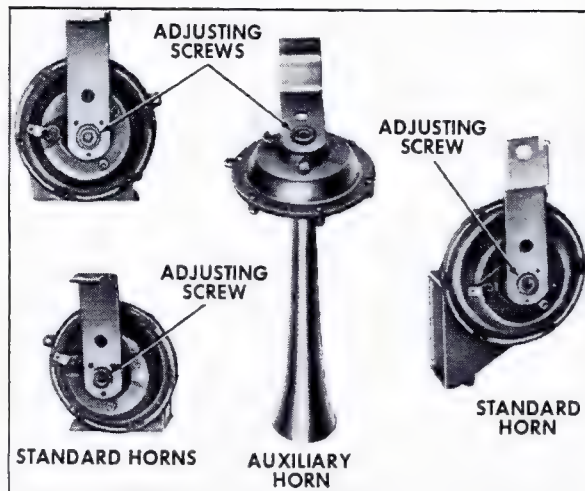

Fig. 12-33 Horn Adjusting Screw
5. If horn still fails to blow until tapped, turn adjustment screw, Fig. 12-33, one full turn counterclockwise with pliers.
Turn adjusting screw, Fig. 12-33 counterclockwise to increase current or clockwise to decrease current until specified current is reached. Care must be taken not to turn the adjusting screw too far. Turn screw 1/4 of a turn at one time. If adjustment loosens the screw excessively, it may be staked with a punch.
If horn fails to blow in cold weather, it is possible that current limit is set too low although still within 4.5 - 5.5 ampere limit (each horn) at 12.0 volts. Turn adjusting screw 1/4 turn counterclockwise (90°) to increase draw, Fig. 12-33.